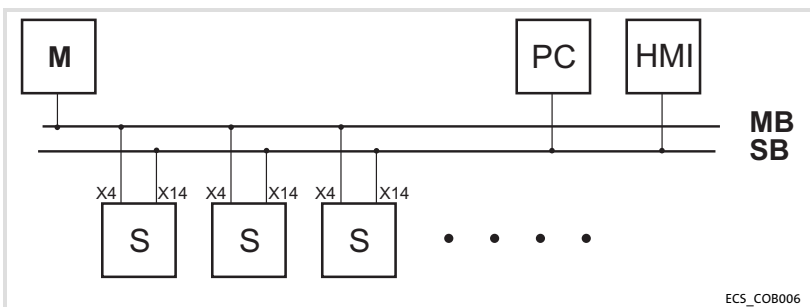

Fig. 4-14 MotionBus (CAN) with master control
- ▶ In Fig. 4-14 a higher-level control assumes the function of the master, e.g. ETC.